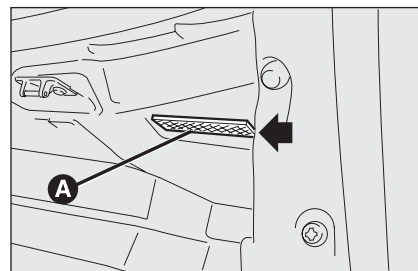
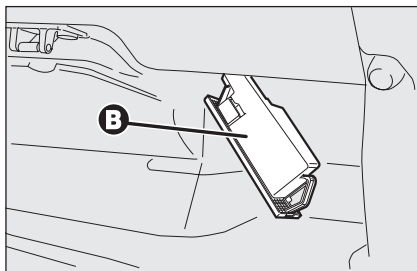

fig. 40
fig. 41
- ☐ remove the light unit **A-fig. 40** levering in the point shown by the arrow;
- ☐ raise protection **B-fig. 41** and replace the snap-fitted bulb;
- ☐ close protection **B-fig. 41** on light unit **A-fig. 40**;